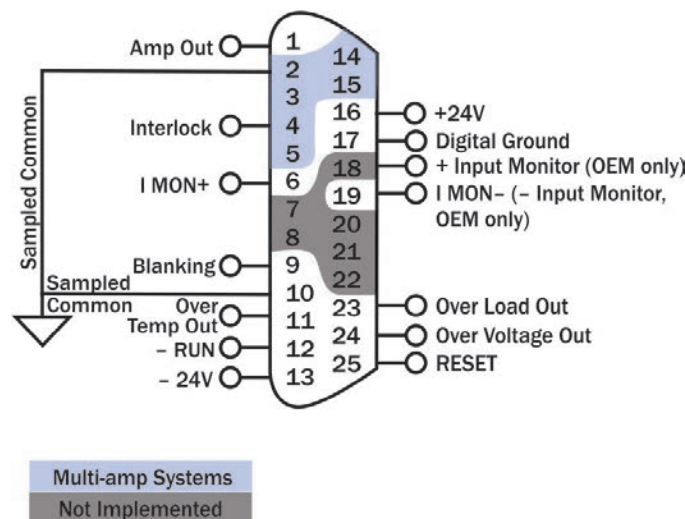

Figure 6.9 – Remote Status and Control Pinouts
**Figure 6.9** maps the pins used for these applications.